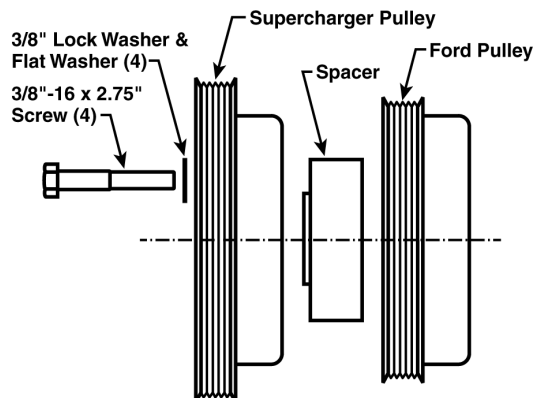

FIGURE 1. CRANK PULLEY SPACER
- STEP 13:** Reinstall the crankshaft pulley with the supplied spacer and supercharger drive pulley. **See Figure 1.** Secure with four 3/8"-16 x 2.75" hex head bolts supplied in the kit. **Check to ensure that the spacer and pulleys are properly seated on the pilot to avoid excessive runout.** Torque the bolts to 45 ft./lbs., using a crisscross pattern.